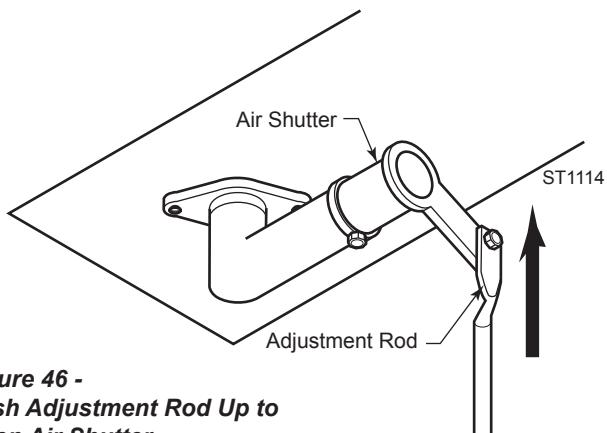

Figure 46 -
- To increase air mixture, push up the adjustment rod located beneath the stove. This opens the shutter more and will stop or minimize sooting. *Figure 46*